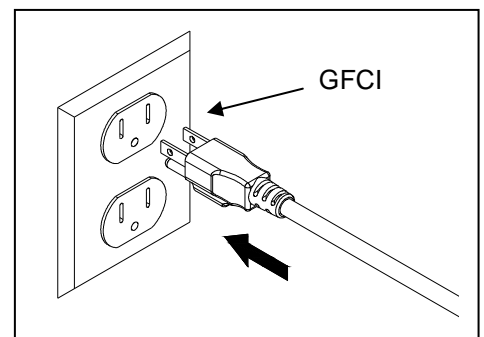

Fig. 19
5. Connect the plug into a properly grounded electrical outlet. Fig. 19